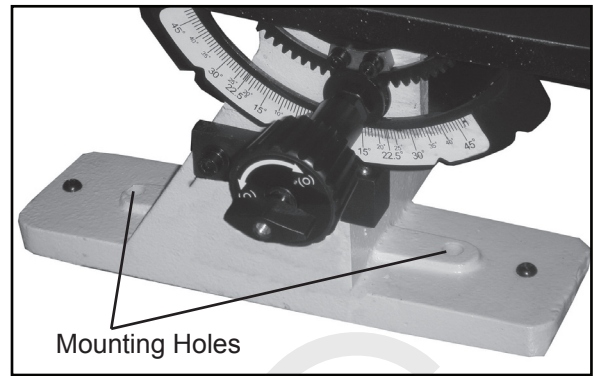

Fig. 01
4. Align sander base over holes and secure using four 5/16" screws (or larger) and hex nuts. (See Fig. 01)